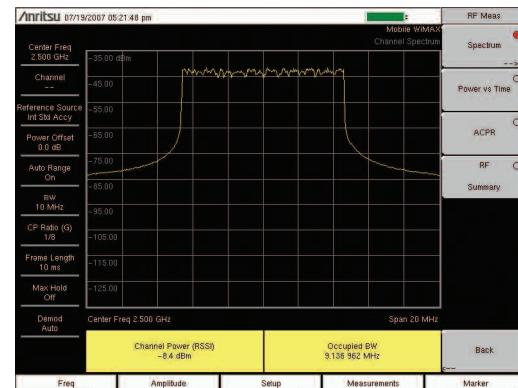

Figure 1. RF Spectrum view.
1. Select the Shift key, then the Mode (9) key.
11. Press the Spectrum soft key to activate the spectrum measurement. The red dot on the soft key indicates it is selected (Figure 1).